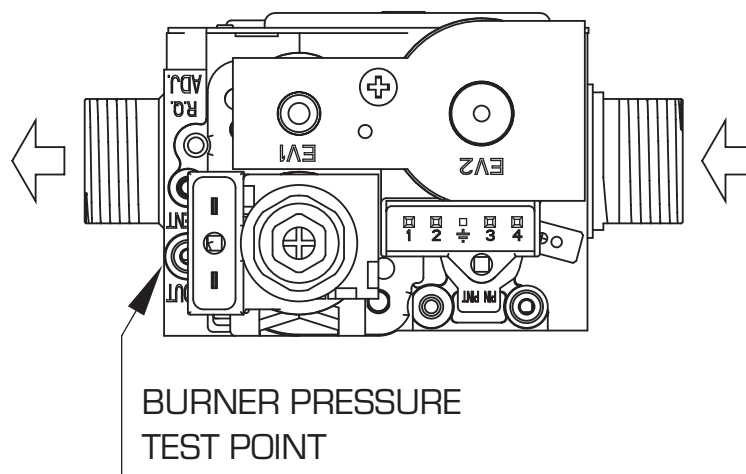

Fig. 21
- Loosen the screw and connect a pressure gauge to the burner pressure test point on the gas valve (fig. 21).